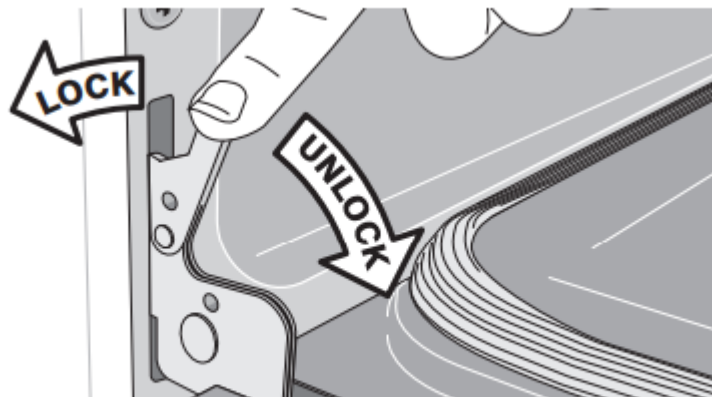

Figure 8: Door hinge locked
4. Push the door hinge locks up toward and into the oven frame on both left and right oven door hinges to the locked position (Figure 8)